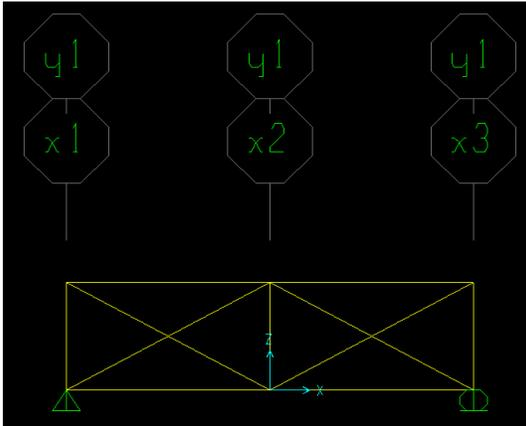
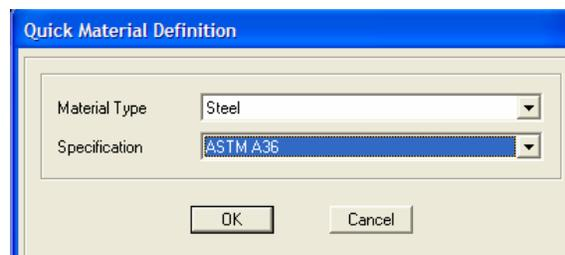

Figure 6: Default Truss Model
**Figure 10: Truss with Correct Supports**
- Figure 6 shows the default 2-D truss. The truss now needs to be modified to match the truss shown in Figure 1. Members that are not needed can be deleted by selecting the member by clicking on it and then pressing Delete on the keyboard. Additional members can then be added by clicking on **Draw** from on main toolbar and then choosing **Draw Frame/Cable/Tendon** from the drop down list. Alternatively you can select the Draw Frame/Cable/Tendon **Button** to perform the same task. To define an element, click on a joint at the beginning of the element and than on the joint at the end of the element. To end a series of element definitions, simply double-click on the final joint.
- The **Default** Truss that is created by SAP2000 and which was edited to resemble the Truss shown in Fig. 1 is created with **Default** supports (see Fig. 6). These supports need to be edited to match those presented in the truss in Figure 1. This can be done by following the steps outlined above to obtain the truss shown below in figure 10.